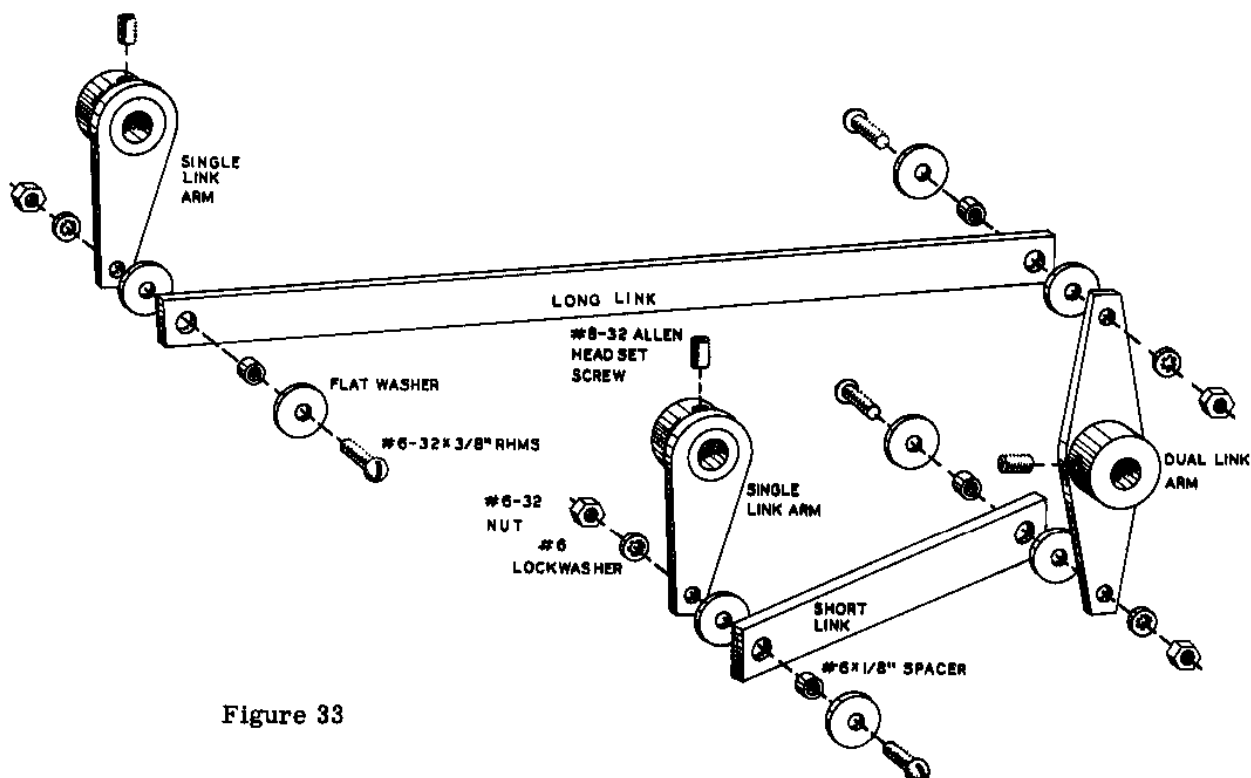

Figure 33
- () Locate the two single link arms, the dual link arm, and the long and short links. Start #8-32 x 1/4" Allen head set screws in the three hubs. Refer to Figure 33 for the link drive assembly. When securing the link to the arms, use a #6-32 x 3/8" RHMS. Place a #6 flat washer next to the screw head, then slip a #6 x 1/8" spacer on the screw. Insert the group through the hole in the link, through another #6 flat washer, then pass the screw through the hole in the end of the link arm and secure with a #6 lockwasher and nut. The link is always secured on the side of the link arm away from the hub, as shown.